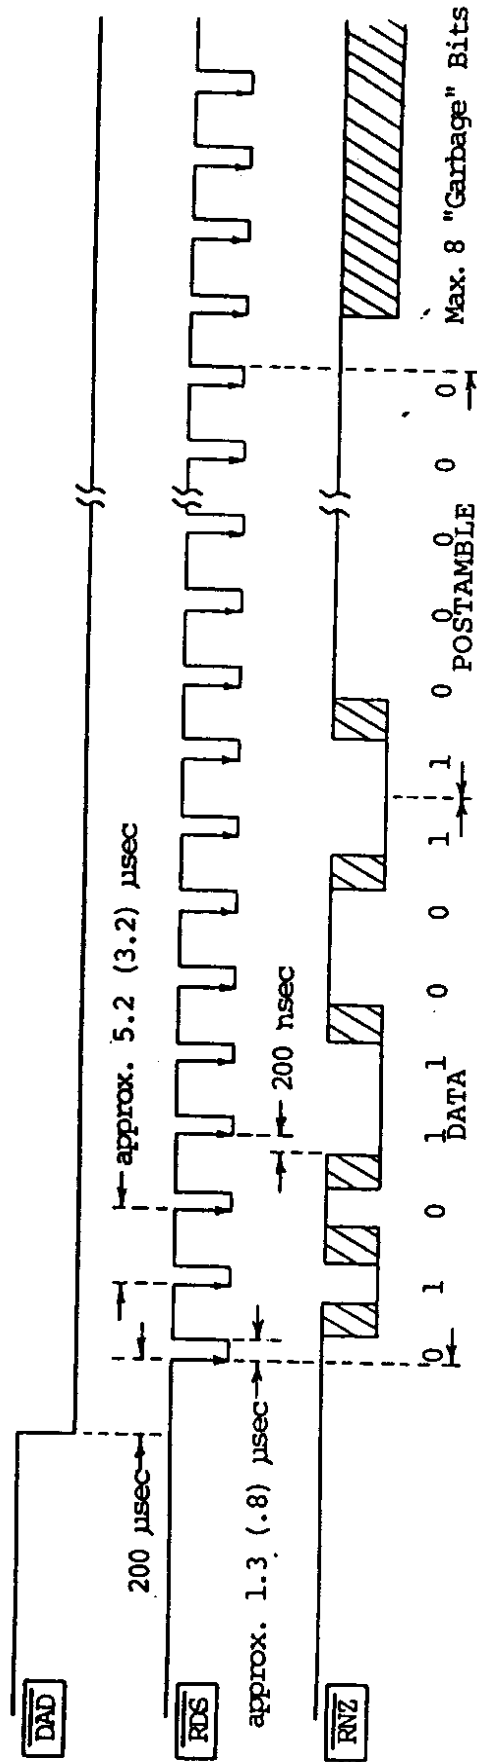

Figure 5.7, Read Waveforms
- (1) The preamble, data, and postamble must be presented already encoded in NRZ.
- (2) The first zero of the preamble should be on WNZ 200 nanoseconds before WDE. WDE should be cleared on the positive going edge of the last WDS in the postamble.
- (3) WDS is a 25% duty cycle pulse that occurs once per bit. Data is clocked in on the negative going edge of the strobe.
- (4) Each bit must be stable on WNZ at least 200 nanoseconds before the clock. It may be changed on or after the positive going edge of WDS but must again be stable 200 nanoseconds before the next clock.
5.4.2 READ DATA. The read data is an output to the controller from the IMFM Formatter. The relevant signals are shown in figure 5.7. Note the following: